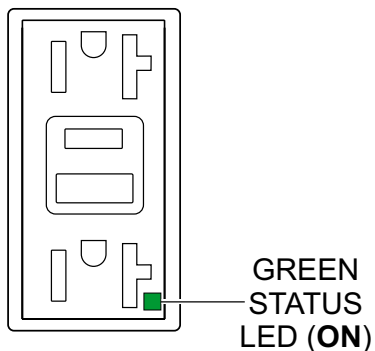

Figure 93. GFCI Receptacle (ON)
3. Verify that the status LED on the GFCI receptacle (Figure 93) is **ON (GREEN)**.